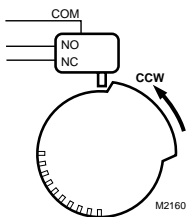

Fig. 2. Switching configuration for counterclockwise rotation (top view).
1. Determine desired switching action (if switch is to energize during clockwise ↻ or counterclockwise ↻ rotation). With switch cam as shown in Fig. 2, the normally closed contact opens during counterclockwise ↻ rotation and the normally open switch closes.
5. With a screwdriver, move cam inside switch assembly to the appropriate position. Remember, the direction of travel of the cam for switching purposes (see Fig. 2 and 3). Monitor the switch closure with an ohmmeter for a continuity check. See Table 1.